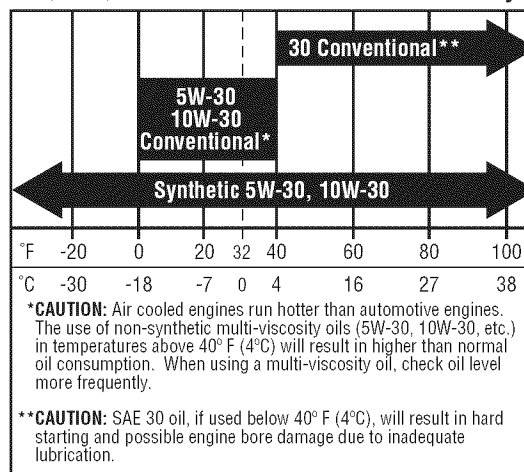
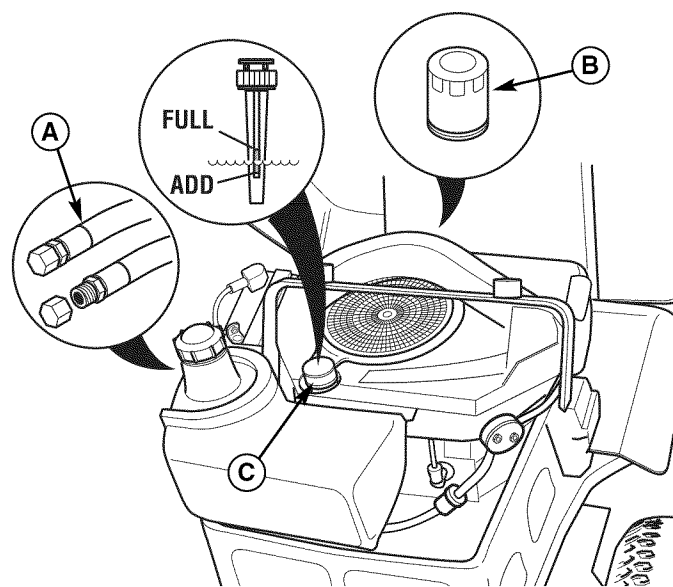

Figure 30. Recommended Engine Oil
Figure 31. Oil Change
2. Clean the area around the dip stick (C, Figure 31).
3. Remove the dip stick (C) and clean it with a paper towel.
4. Insert the dip stick back into the engine. Thread the cap back into the tube (D).
5. Remove the dip stick and read the oil level. The oil level should be between the “FULL” and “ADD” marks (D). If not, add oil according to the oil recommendations chart (Figure 30).
1. Clean the area around the dip stick (C, Figure 31) and oil drain tube (A).
2. Remove the oil drain plug (A) from the end of the oil drain tube. Remove the dip stick (C). Allow ample time for complete drainage.
3. Reinstall the oil drain plug (A) and route the hose next to the engine.
1. Clean the area around the dip stick (C, Figure 31) and oil drain (A).
2. Remove the oil drain plug (A) and dip stick (C). Allow ample time for complete drainage.
3. Remove the oil filter (B). Discard the filter.